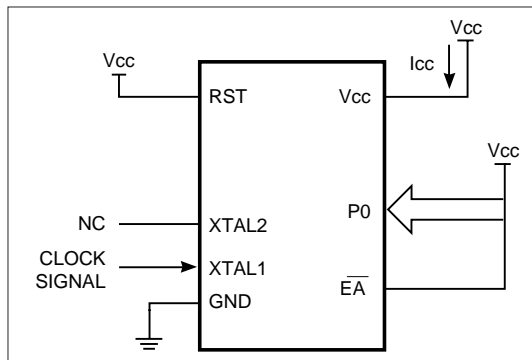

Figure 9. Active Mode
1. See Figures 9, 10, 11 and 12 for I_{cc} test conditions.